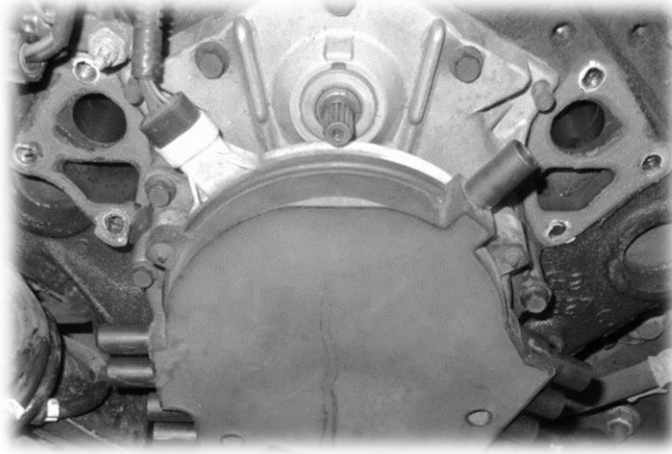

Figure 8 – Water pump removed
11. You should now be able to remove the water pump. It may need some nudging to knock it loose from the engine. Do not use hammer, or high force as you may crack the housing. Again be prepared for coolant to leak. (Fig 8)